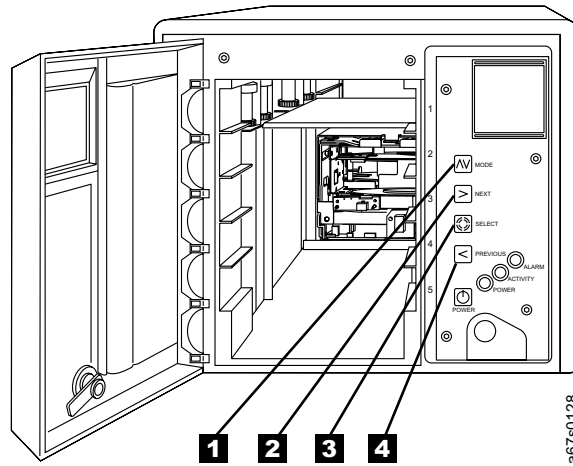

Figure 3. Using the control buttons to determine or change a SCSI ID
1. Repeatedly press the MODE button (**1** in Figure 3 on page 11) until **SET SCSI** appears on the message display.